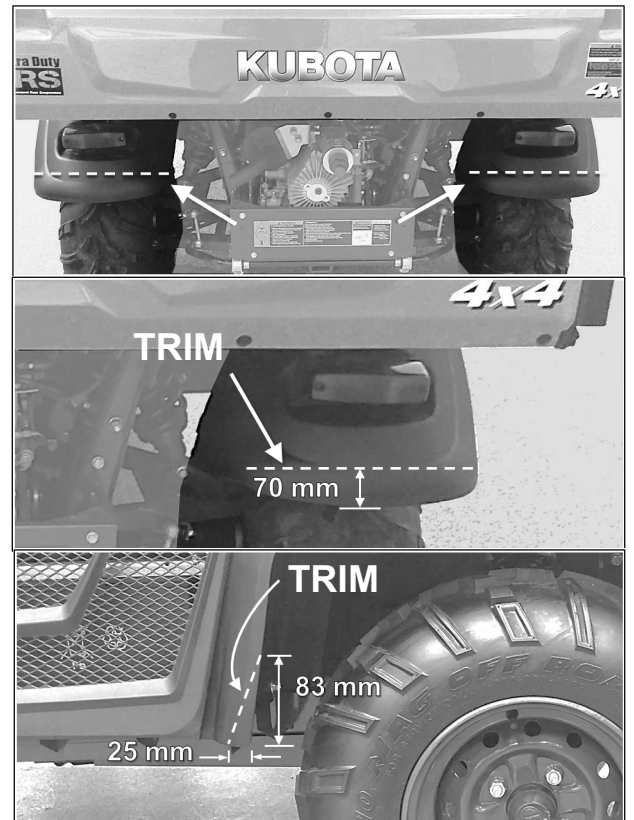

Fig. 31
4. Rear fenders should be modified (trimmed) to avoid damage to the vehicle's components and premature wear on rubber track. See Fig. 31